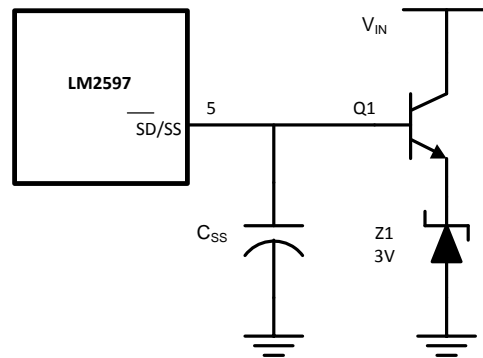

Figure 34. External 3.7V Soft-Start Clamp
4. **Normal operation.** Above 2.8V, the circuit operates as a standard Pulse Width Modulated switching regulator. The capacitor will continue to charge up until it reaches the internal clamp voltage of approximately 7V. If this pin is driven from a voltage source, the current must be limited to about 1 mA. If the part is operated with an input voltage at or below the internal soft-start clamp voltage of approximately 7V, the voltage on the SD/SS pin tracks the input voltage and can be disturbed by a step in the voltage. To maintain proper function under these conditions, it is strongly recommended that the SD/SS pin be clamped externally between the 3V maximum soft-start threshold and the 4.5V minimum input voltage. Figure 34 is an example of an external 3.7V (approx.) clamp that prevents a line-step related glitch but does not interfere with the soft-start behavior of the device.